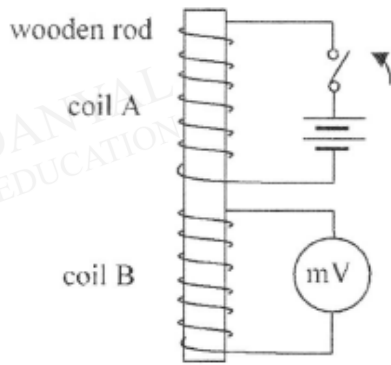

Fig. 10.1
Two coils, A and B, are placed one on top of the other, as shown in Fig. 10.1. Coil A is connected in series with a battery and a switch. A millivoltmeter is connected across the terminals of coil B.
- (a) Explain why, when the current in coil A in Fig 10.1 is switched on, the millivoltmeter indicates an induced e.m.f. for a short period of time and then reduces to zero rapidly.